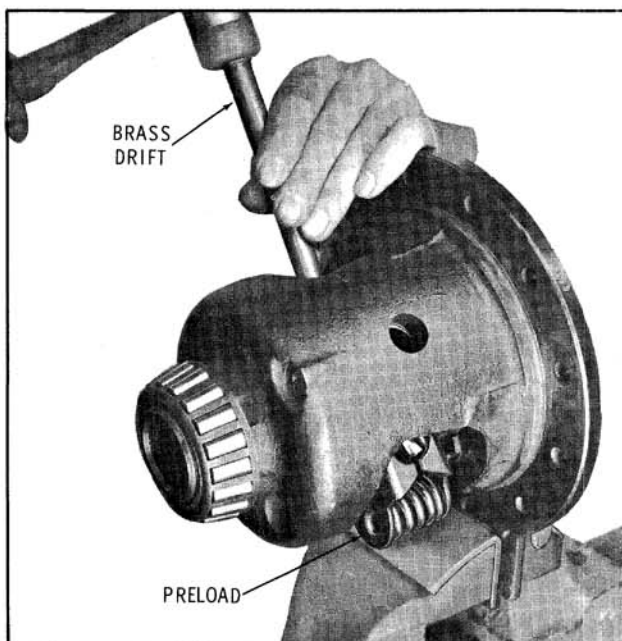

Fig. 10-48 Removing Pre-load Springs
4. Remove the pre-load spring retainer and springs from the case. (Fig. 10-48)